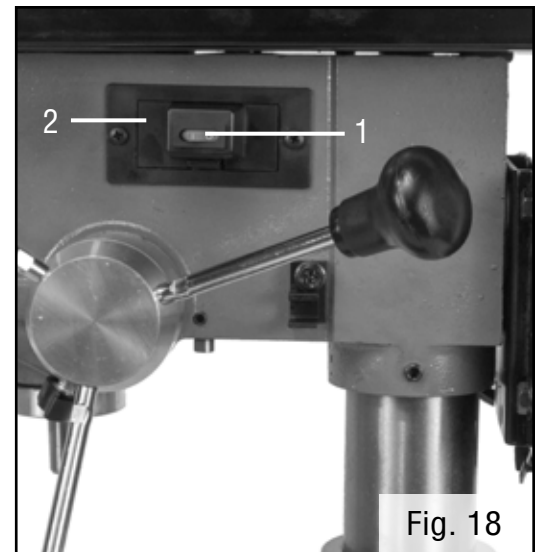

Fig. 18
LASER LINE ON/OFF SWITCHES (FIG. 18)
The laser switch (Fig. 18 - 1) is located on the left hand side of the drill press.
1. Pull the tab located below the laser switch and lift up the laser switch cover (Fig. 18 - 2).